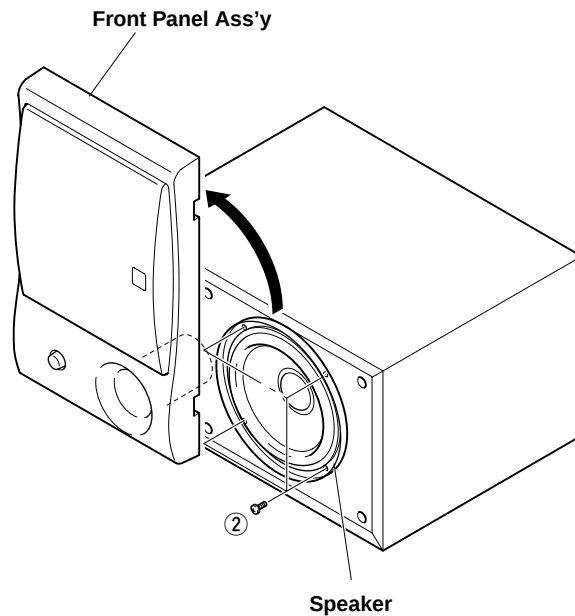

Fig. 2
- Set up the front panel ass'y in the direction of the arrow, in Fig. 2.
- Remove 4 screws (②) in Fig. 2, and remove the speaker.